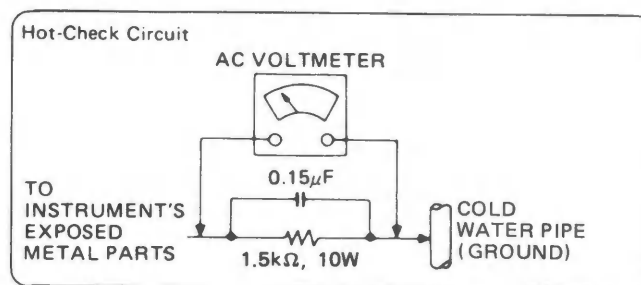

Fig. 1
### LEAKAGE CURRENT HOT CHECK (See Fig. 1)
2. Connect a 1.5 k $\Omega$ , 10 watt resistor, in parallel with a 0.15  $\mu$ F capacitor, between each exposed metallic part on the set and a good earth ground such as a water pipe, as shown in Fig. 1.